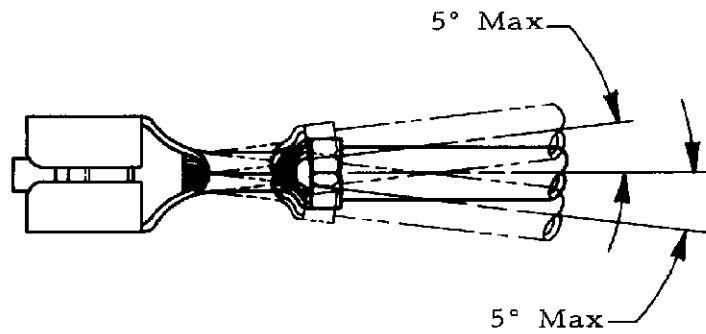

Figure 4
(2) The side to side bending of the contact shall not exceed the limits specified in Figure 4.